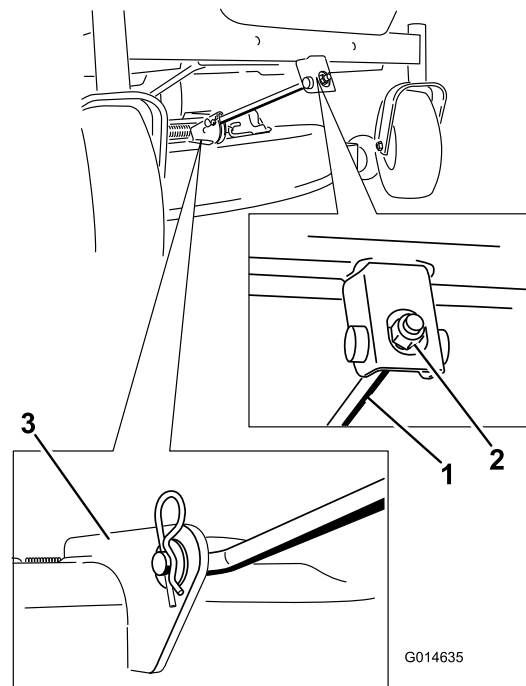

Figure 69
4. Remove the hairpin cotter from the front support rod, and remove the rod from the deck bracket (Figure 69).
- Attach the front support rod to the mower deck with the clevis pin and hairpin cotter (Figure 69).